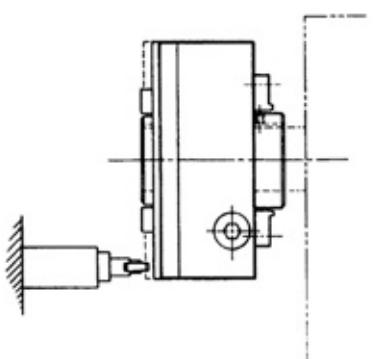
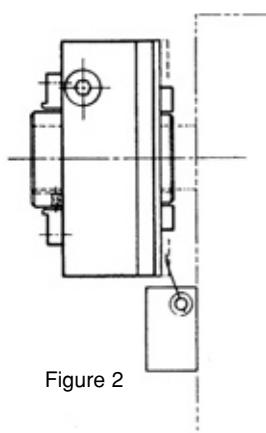

Figure 1
Figure 2
**Note:** Refer to Figure 1 and Figure 2 for typical installations. Figure 1 mounting is preferred for reasons of rigidity.